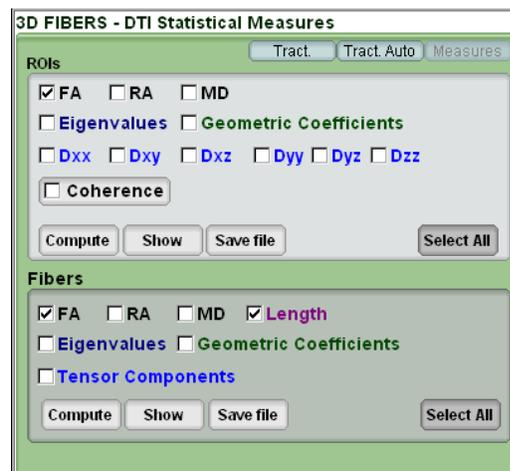

Figure 17: DTI measures control panel
The control panel to perform measures (**Measures panel**) is shown in figure 17. This panel is available from **DTI-> measures** menu item, and from the **Stats** button in the **model data browser** (6). The upper buttons marked as **Tract** and **Auto** allows to access quickly to the Tractography menu and the Automatic fiber Clustering menu. Two different measure types can be performed here: *ROIs measures* and *Fibers measures*.